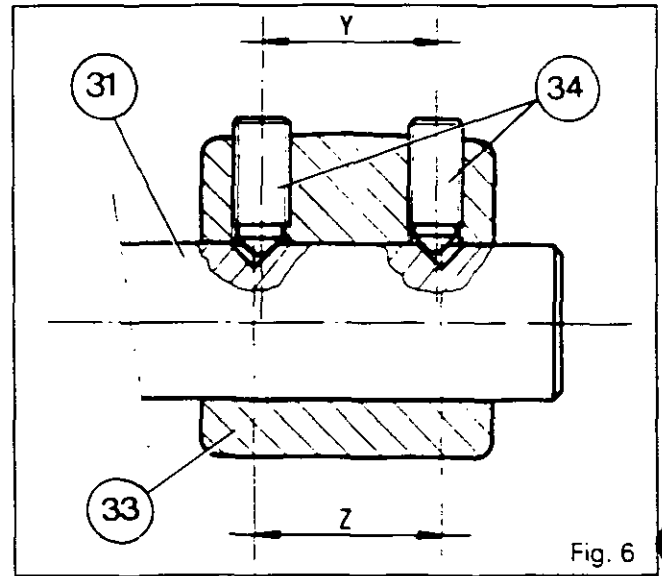

Fig. 6
The selector (33) is positioned on the basis of the difference in the spacing **Y** of the holes and the spacing **Z** of the spot-faced depressions in the guide rail (31). The selector can be adjusted to move to different points by acting either on the front or the rear screw (32) depending on the adjustment required (Fig. 6).